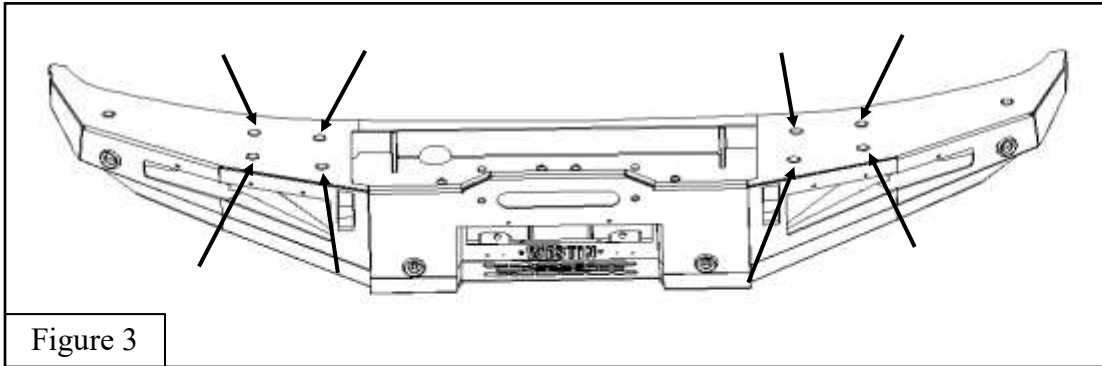

Figure 3
3. Locate the mounting holes on the XTS bumper. See **Figure 3** for reference.